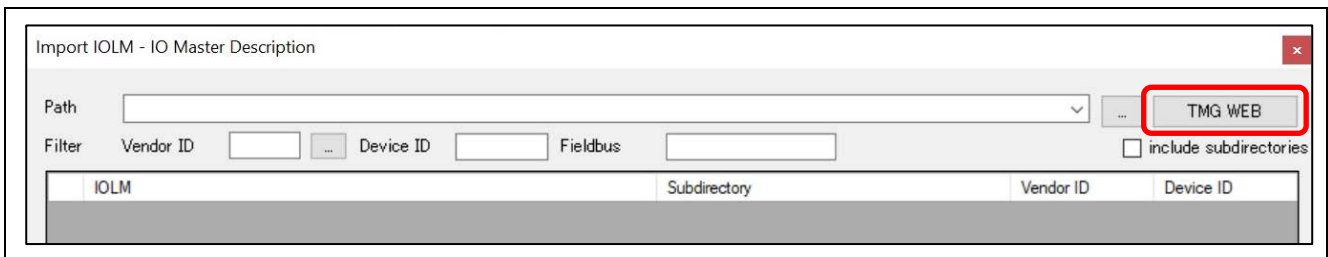

Figure 33. IO-Link Device Tool V5.1 – PE (Import IOLM)
2. When Figure 33 is displayed, select **TMG WEB**.